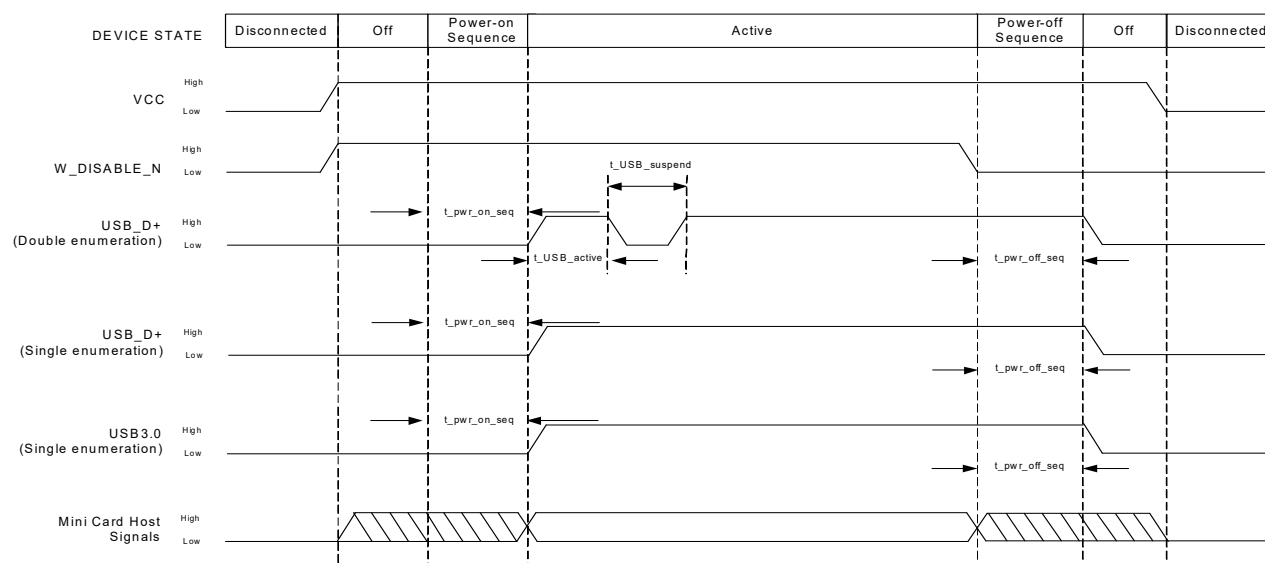

Figure 4-2: Signal Timing ($W_DISABLE_N$, and USB Enumeration)
Figure 4-2 describes the timing sequence for powering the module on and off.
- Double enumeration — As shown in Figure 4-2 on page 43: